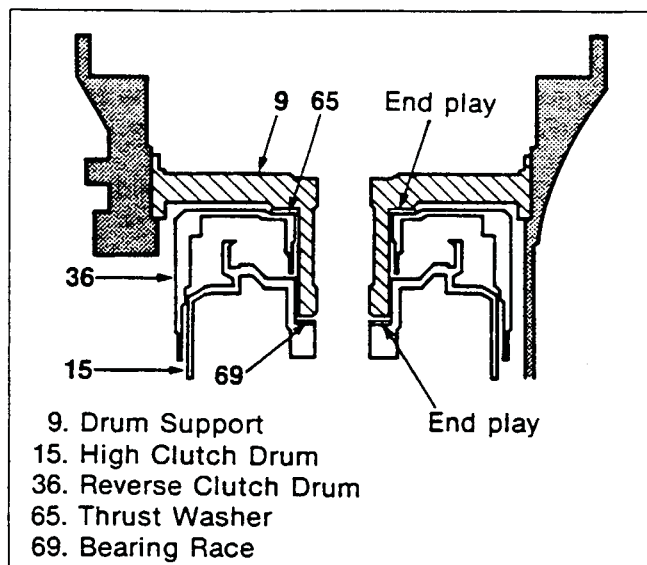

Figure 271. End Play Measurement (1)
End play measurement (Figures 271, 272, 273, 274, 275 and 276)
- End play is front-to-back movement of the rotating parts in the automatic transmission. The gap where movement occurs must be adjusted to the proper end play (figure 271).